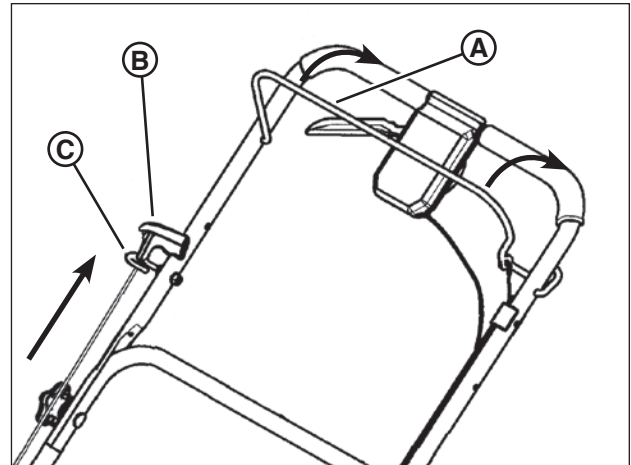

Figure 2: Starter rope handle
1. Squeeze the blade control **(A, Figure 2)** against the handle.